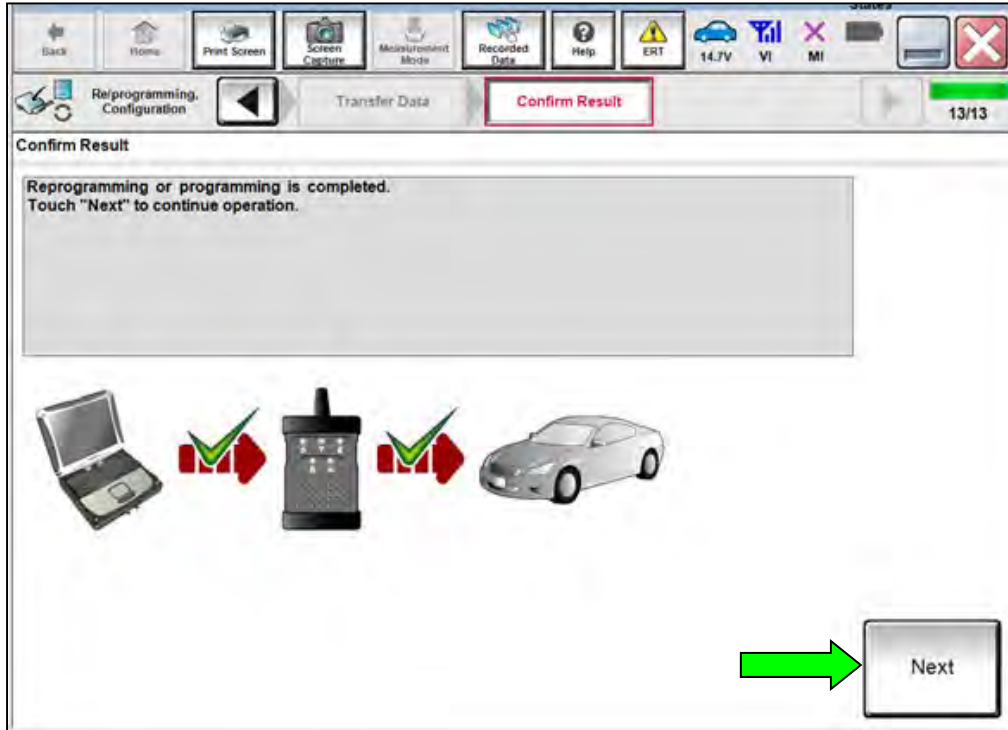

Figure 19
31. When the screen in Figure 19 displays, the reprogramming is complete.
NOTE: If the screen in Figure 19 does not display (reprogramming does not complete), refer to the information on the next page.